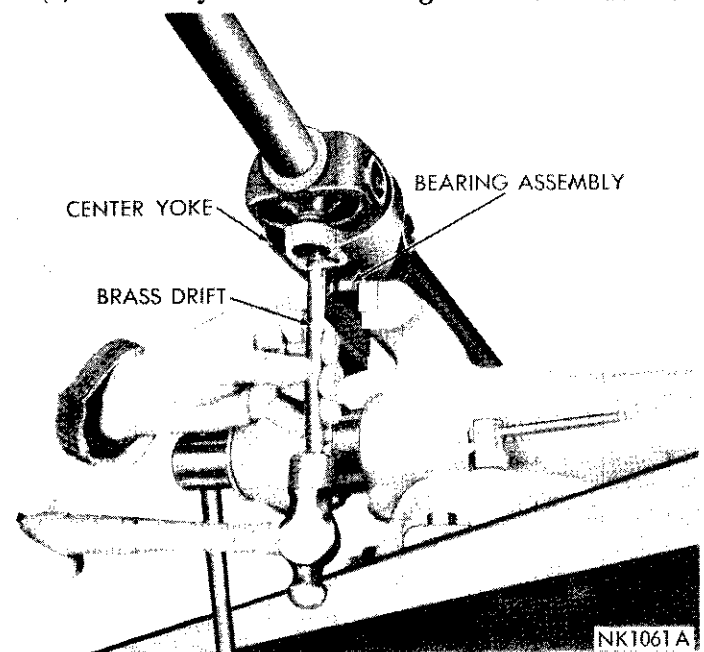

Fig. 15—Removing Bearing from Center Yoke
(4) Securely clamp the exposed bearing in vise and drive yoke from bearing, using a brass drift (Fig. 15). Apply only light blows on drift.
(5) Using same procedure, press exposed end of cross to force bearing on opposite end approximately